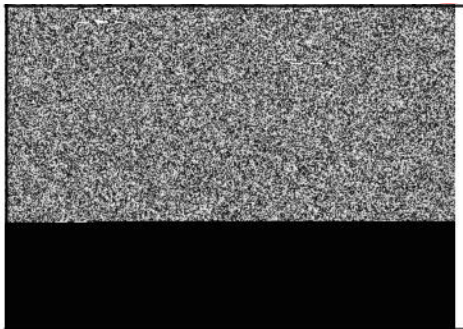

Figure 1
3. Remove the screws (A, Figure 1) and the control panel trim.